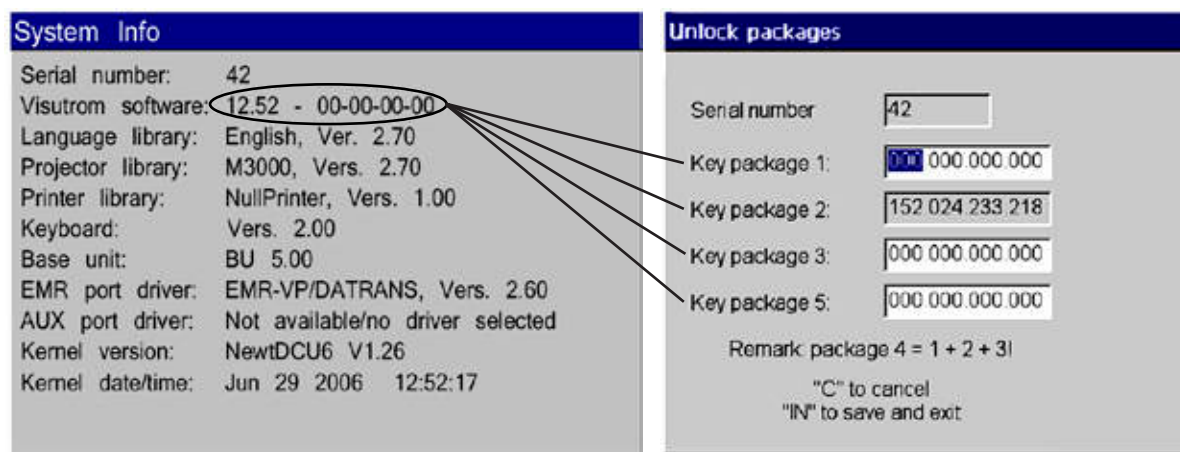

Figure IS-24 Package Keys
3. Press  to select Info. The System Info screen pops up. Refer to Figure IS-24.
6. Use the Scroll Wheel to enter the corresponding numbers into the packages, and press  to enter. Refer to Figure IS-24.